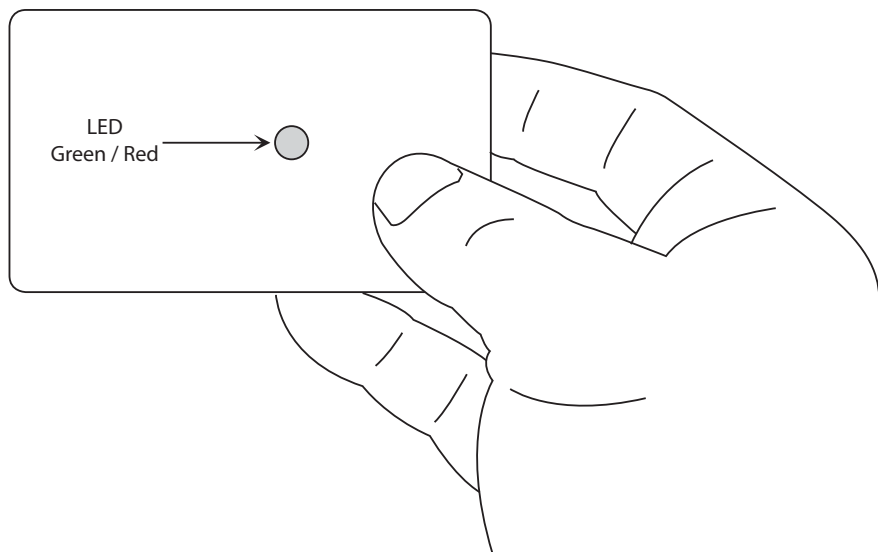

Figure 7: TT-1 Presentation Orientation for Field Test
4. Place the Test Transponder into the vehicle travel lane within the Exciter's signal field and the Receiver's detection field. The Transponder's LED will blink green while within the Exciter's signal field and will blink red when it transmits an ID code to the Receiver (see Figure 7).